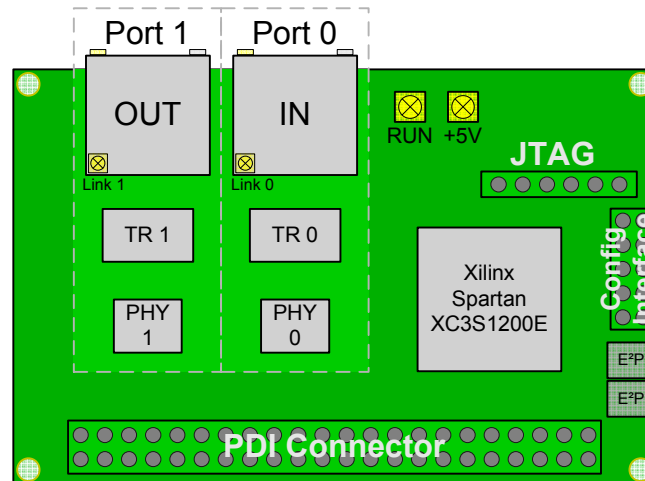

Figure 1: Overview of the FB1130
1.2	<ul style="list-style-type: none">• Figures 1, 5 and 6 updated